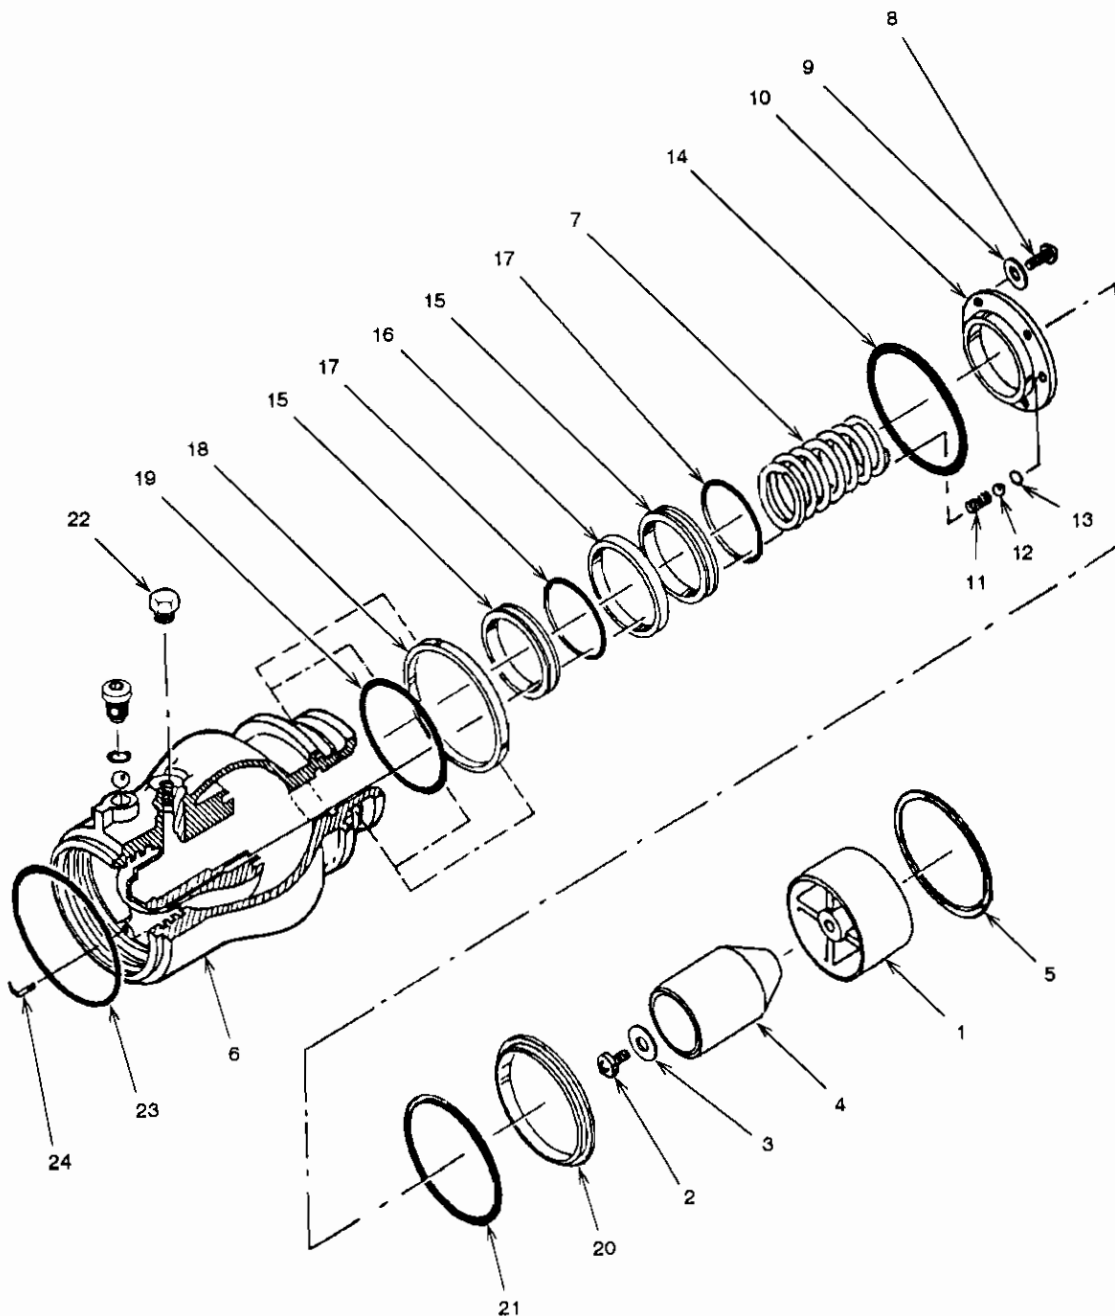

Figure 5-6. 45 PSI Hose End Regulator
- (3) Disassemble the hose end regulator. (Refer to figure 5-6.)